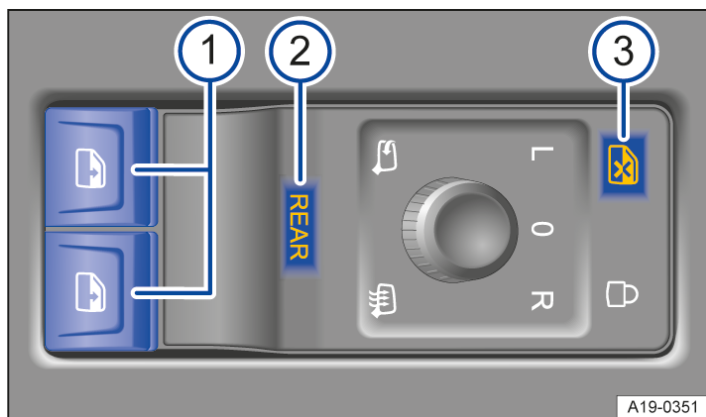

Fig. 1 In the driver door: buttons for the front and rear electric windows
- ① Buttons for electric windows.
- ② Touch control REAR for activating operation of the rear electric windows and convenience opening and closing.
- ③ Control button for deactivating the electric window buttons in the rear doors.
As the default setting, electric windows in the front doors can be operated with the buttons → Fig. 1 ①.
Press the touch control → Fig. 1 ② briefly to activate operation of the electric windows in the rear doors. The touch control function light lights up when operation of the electric windows in the rear doors is activated.